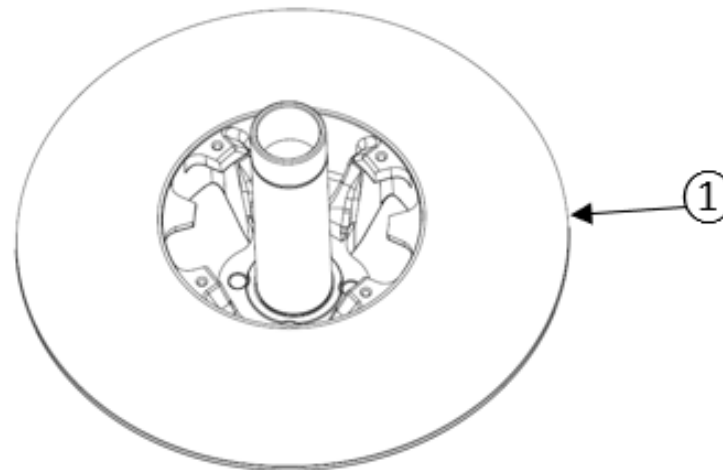

Figure 25
The shaft cannot be disassembled from the fixed sheave (1) (figure 25).